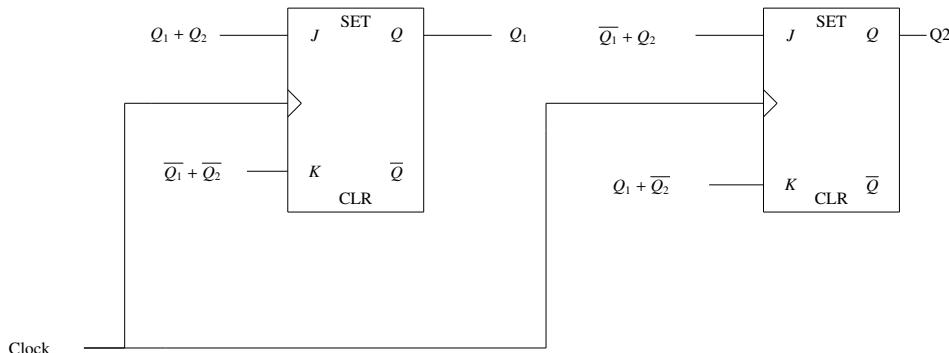

Fig. 5.20
20. A 2-bit synchronous counter using two J-K flip flops is shown in Fig. 5.20. The expression for the inputs to the J-K flip flops are also shown in the figure. The output sequence of the counter starting from  $Q_1Q_2 = 00$  is (GATE IN 2018)